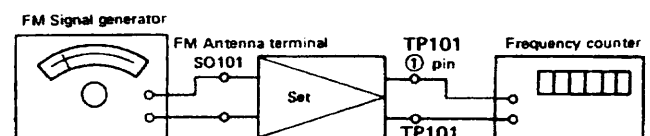

Figure 21-8 VCO Frequency Adjustment
- Make connection of instruments as shown in Fig. 21-8.